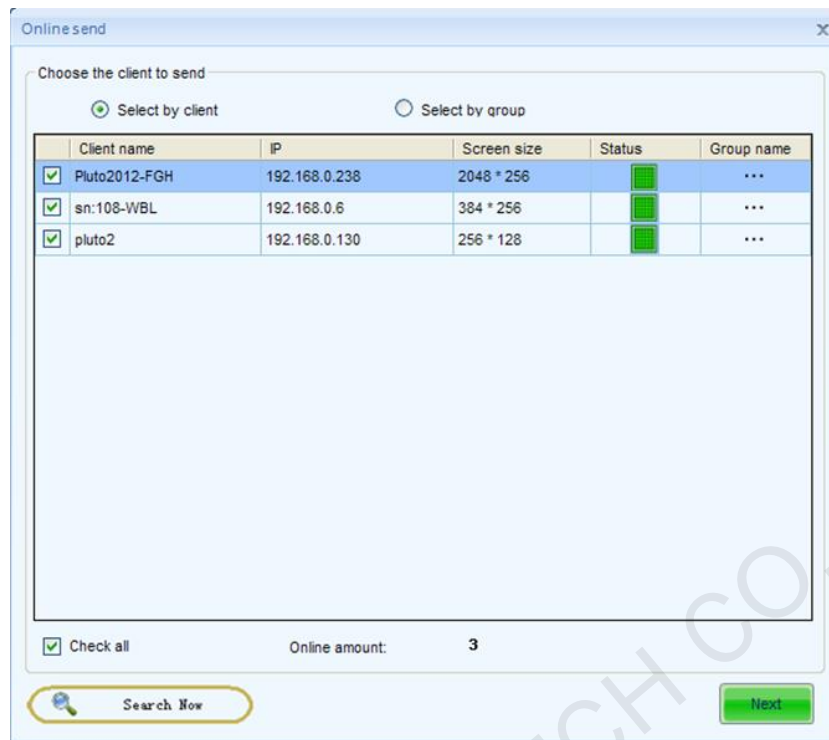

Fig. 10-67 Play-Program online publish page
- 5) Click "Next" on Fig.10-67, send playlist to client, if there is only one client, playlist will be sent to this client directly. if there are more than one client , you can select the clients (who' s